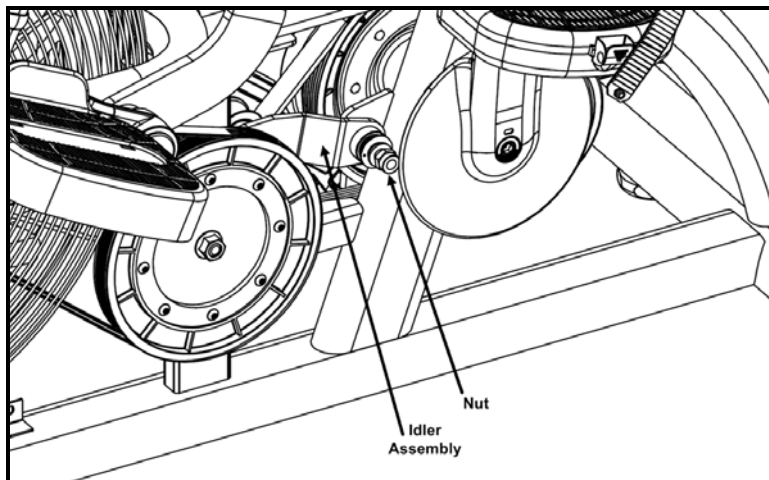

Fig. 7
7. From the user left side remove the clutch assisted idler wheel assembly (Fig. 7) from the base by loosening the locking nut with a 16mm open wrench and then sliding off the idler assembly and washers.